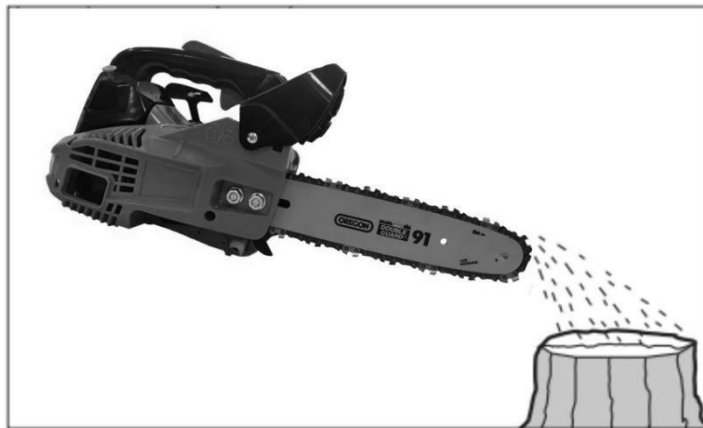

Fig. 13
4. Before you start, check the oil supply: switch on the chainsaw and hold it over suitable bedding. If it is sufficiently lubricated, a light trail of dripping oil will form (fig. 13).